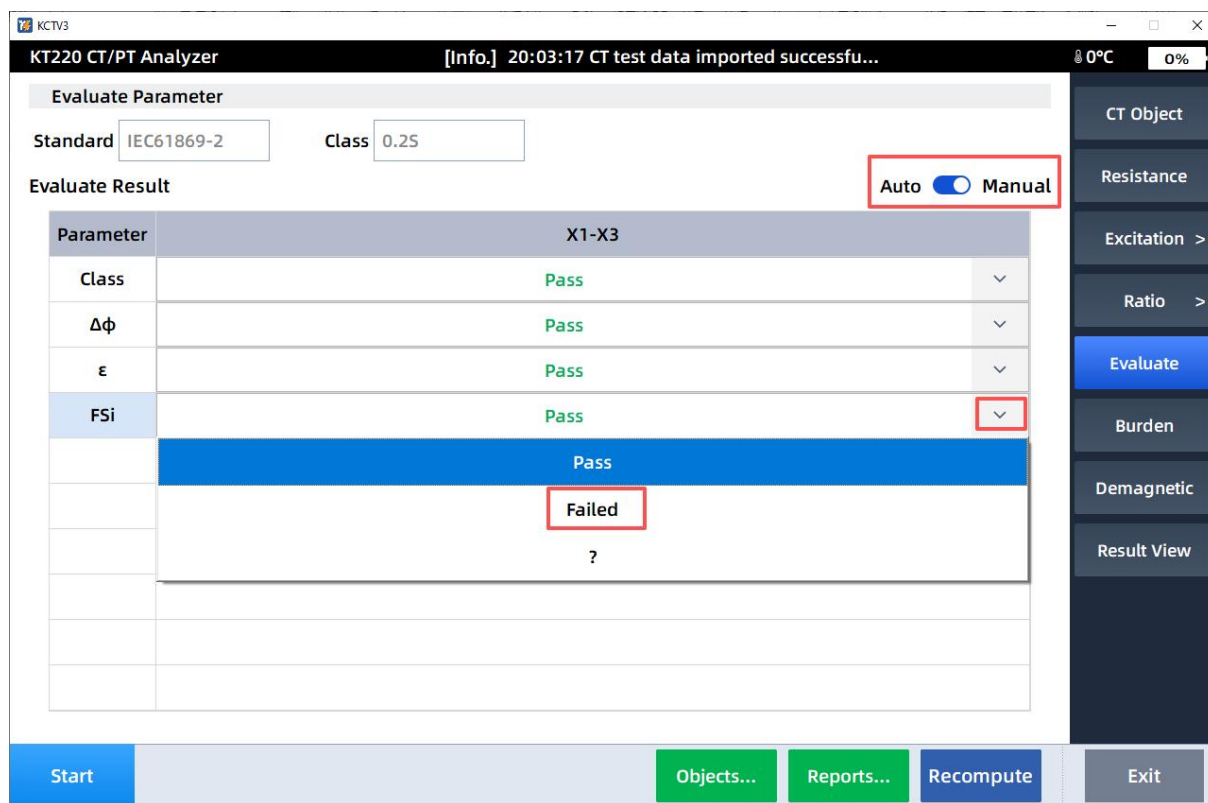

Figure 6-12 Manual Evaluation
4. Manual evaluation is available. Turn on Manual Evaluation as shown in Figure 6-12, and you can select 'Pass', 'Fail', or '?'.